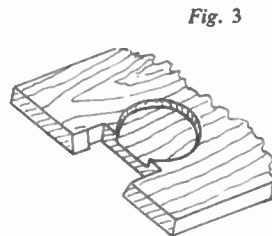

Fig. 2
Fig. 2 shows the lid parts, (A) being the lower one and (B) the upper one. Starting with part (A), draw a pencil line down the centre and on it mark off the points (C), (D) and (E) accurately. At each make a fine hole with an awl. Follow up by cutting out a dovetailed